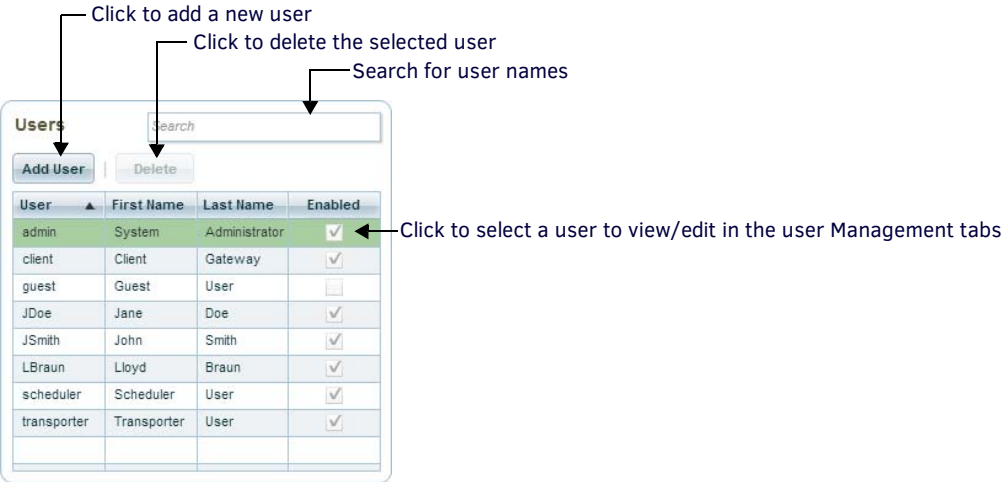

FIG. 298 User Management page - Users window
Use the **Users** window to view and manage users. Initially, the Users window contains the default users, *Admin*, *Client*, *Guest*, *Scheduler* and *Transporter*. FIG. 298 shows the Users window indicating several sample users:
1. In the *Users* window of the User Management page (FIG. 298 on page 181), click the **Add User** button. This action generates a new (empty) set of tabs in the *User Properties* window (FIG. 299 on page 182).